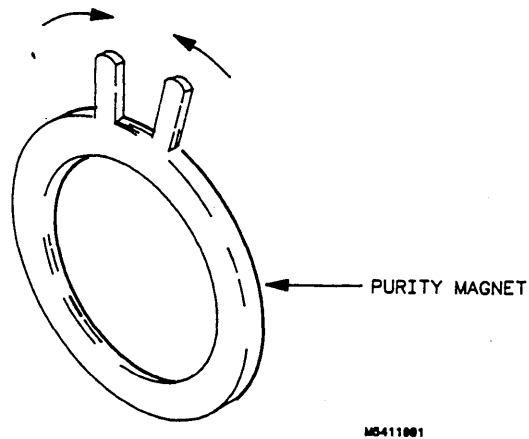

Figure 4-15. Purity Magnet Centering.
4. Set purity magnet tabs to mechanical center (see figure 4-15).
7. Adjust purity magnets until green is in center of raster with red and blue bands evenly distributed on sides (see figure 4-15). The purity magnets need no more than $\pm 15^\circ$ movement from mechanical center.